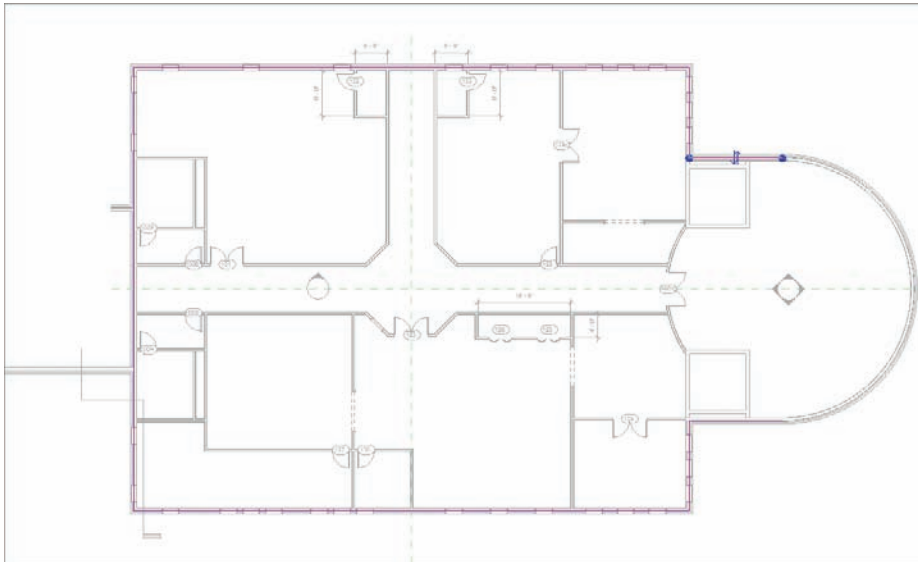

FIGURE 6.25 Picking the core centerline of the exterior walls, except for the radial east wall
2. Start picking walls, as shown in Figure 6.25. *Do not* pick the radial wall at the east entry.